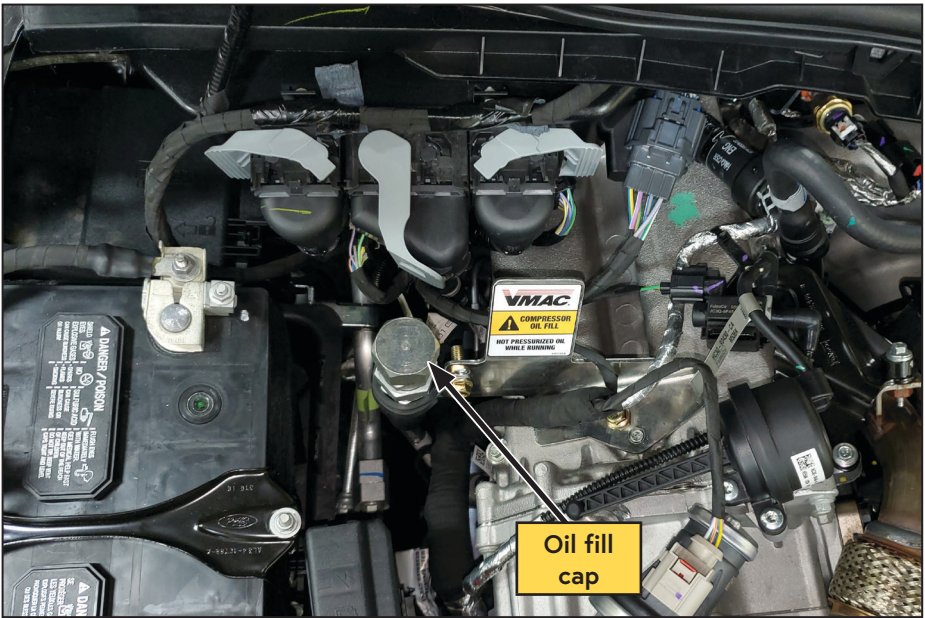

Figure 40 — Oil fill location
- ☐ Remove the plug from the oil-fill hose located in the engine bay on the passenger side of the engine (Figure 40).